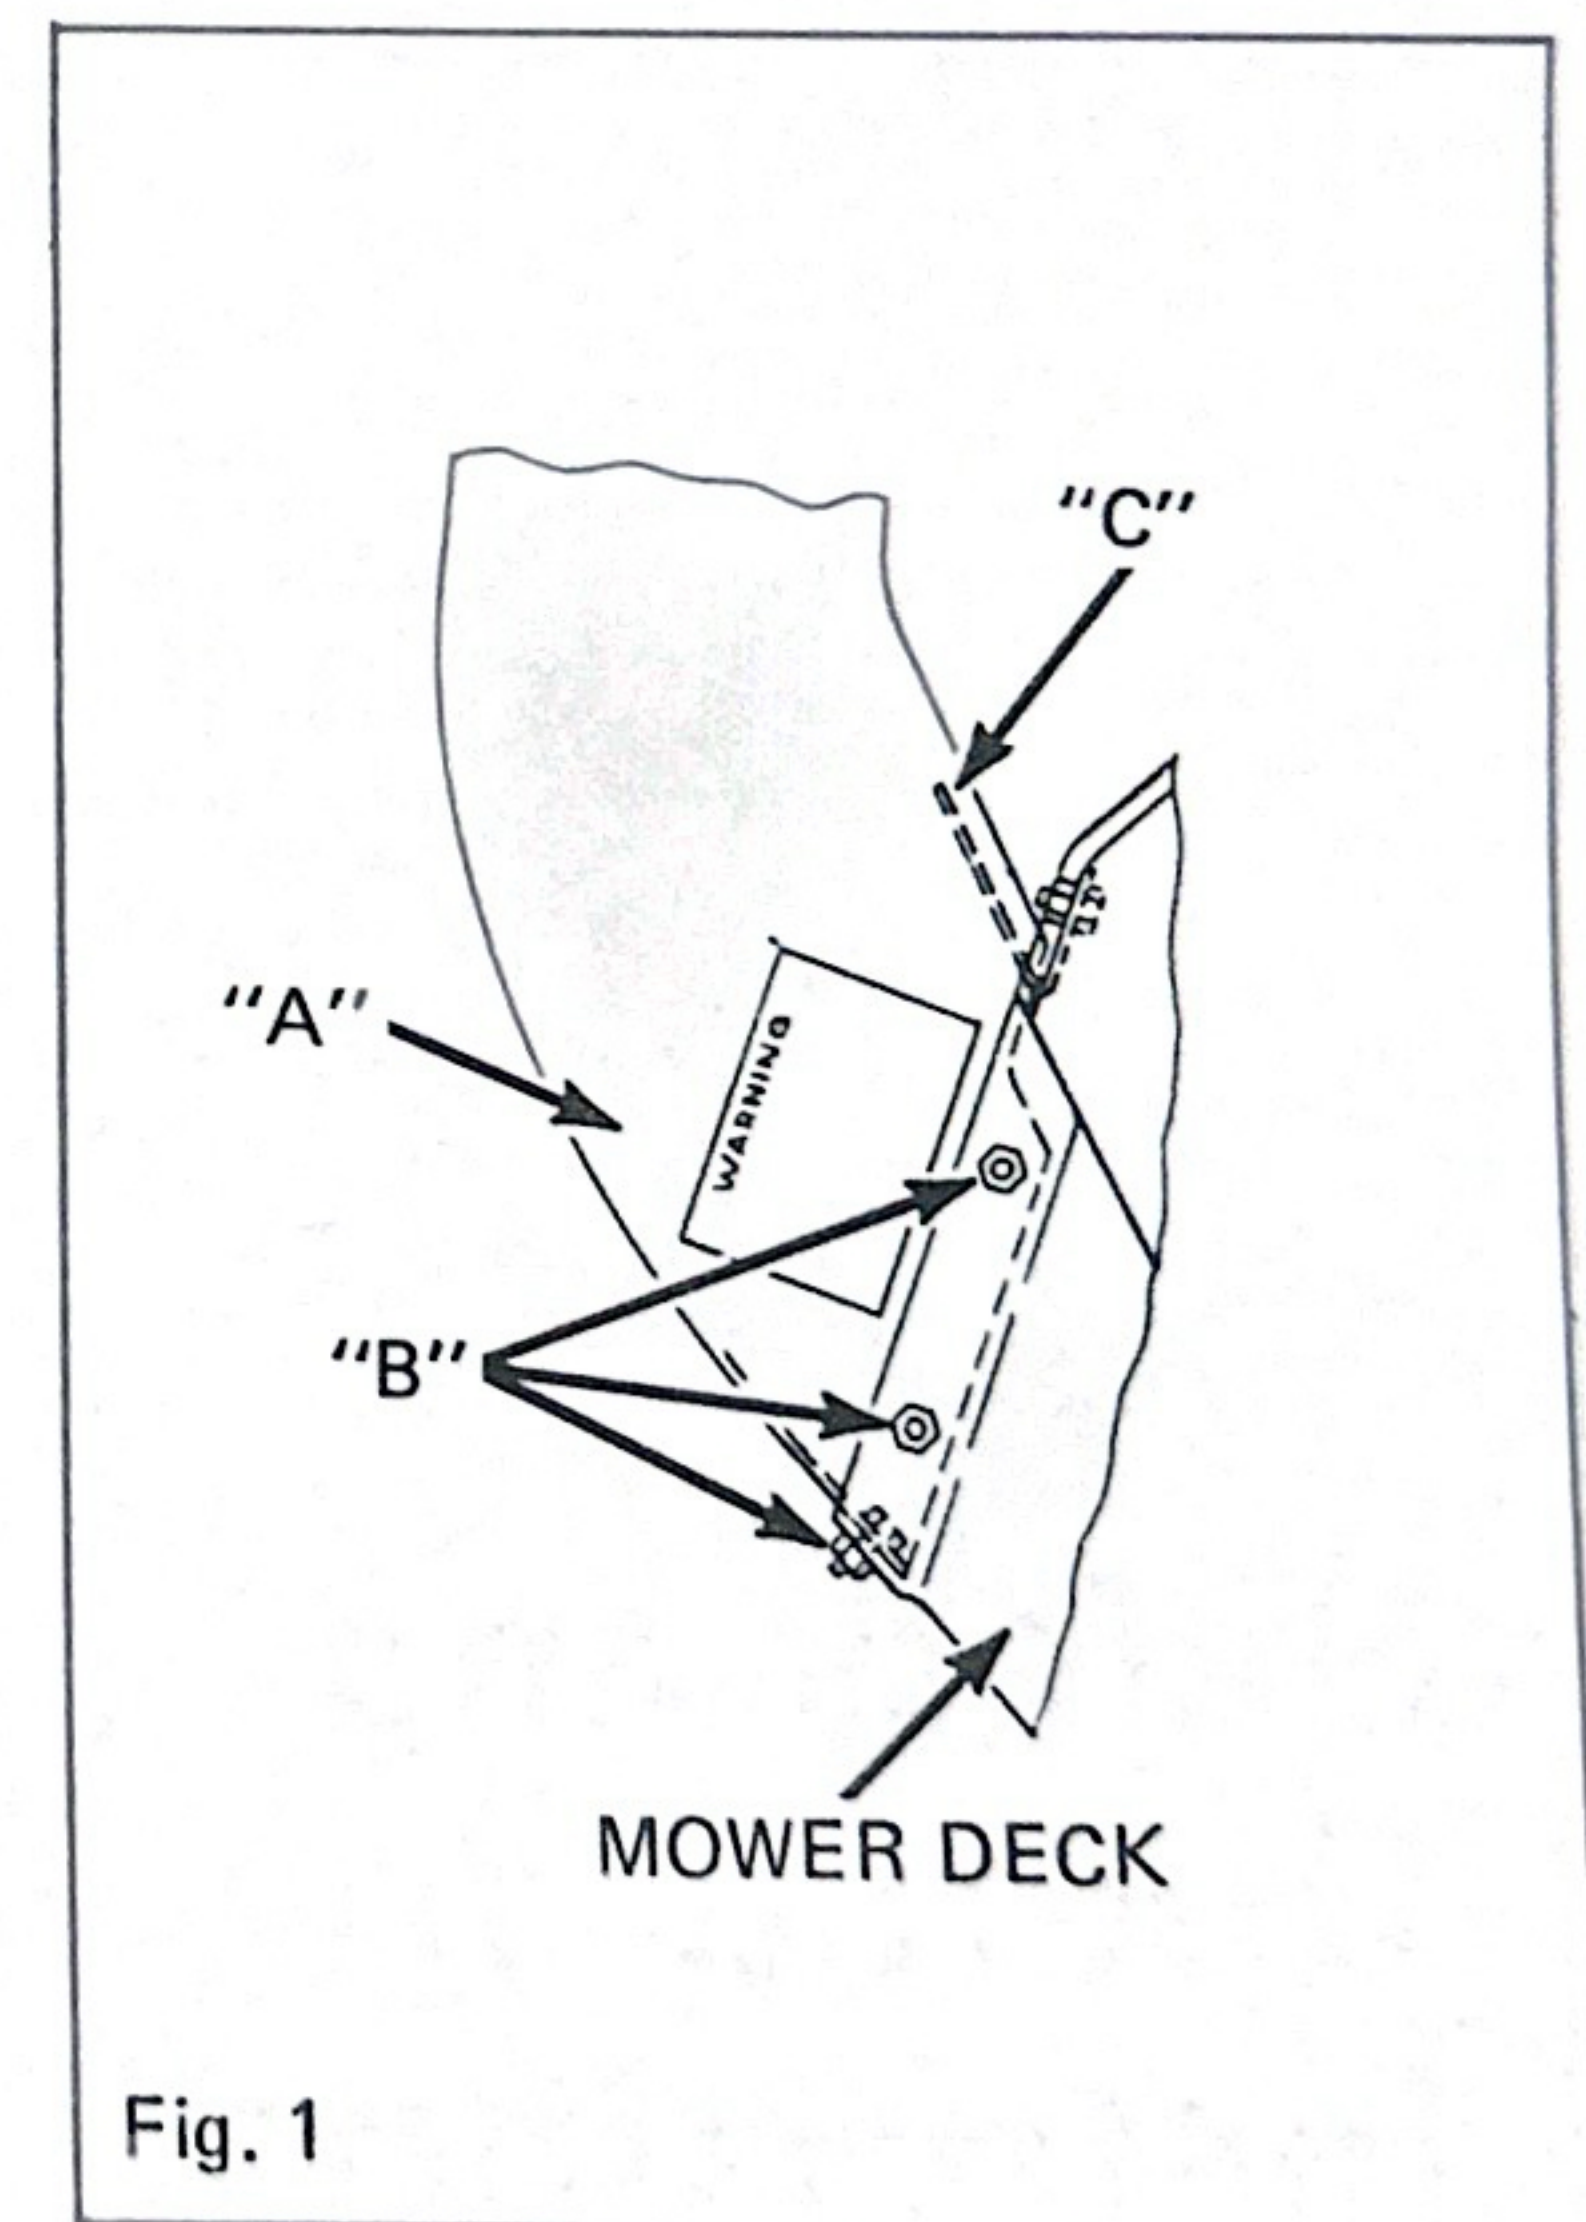

Fig. 1
3. On Model 528, position the lower chute (A) Fig. 1 into the discharge opening. On Models 830 and 831, position the chute over the discharge opening. Secure with three of the carriage bolts, washers and nuts removed from the discharge chute in holes (B).
The "V" shaped bracket (C) packed with this kit is a deflector bracket for Model 528 mower. It MUST be installed inside the lower chute as shown in Fig. 1. Use the extra bolt from the discharge chute to attach this bracket. All four of the bolts MUST be installed with the heads on the inside of the chute or mower deck.